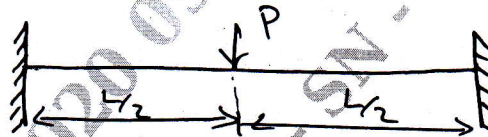

Fig.Q2
- 2 Using Rayleigh – Ritz, find the displacement at midpoint of a beam as shown in Fig.Q2 carries a central point load 'P' having Young's modulus 'E' and cross sectional area 'A'.